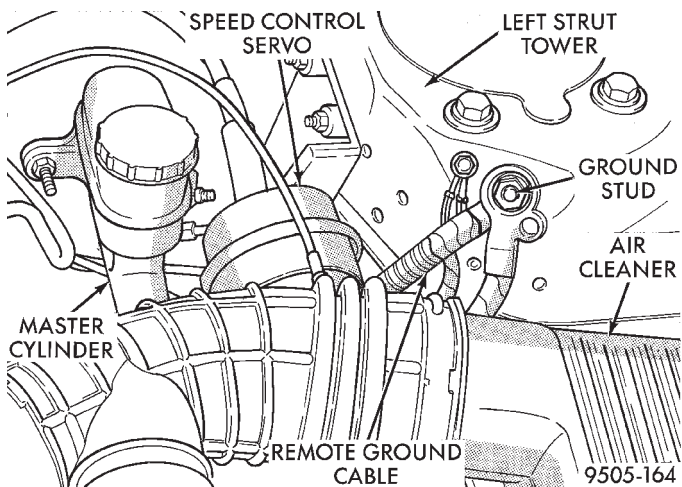

Fig. 20 Remote Ground Cable Attachment To Strut Tower
(1) Remove the remote ground cable from the ground stud on the left strut tower (Fig. 20).
- (14) Lower vehicle.
- (15) Remove brake pedal holding tool.
(16) Install the remote ground cable onto the ground stud located on left shock tower (Fig. 20). Install the remote ground cable attaching nut and tighten to a torque of 28 N·m (250 in. lbs.).
(17) Bleed the base brakes and the ABS brakes hydraulic system. Refer to the Bleeding ABS System in this section of the manual for the proper bleeding procedure.
(18) Road test vehicle to ensure proper operation of the base and ABS systems.